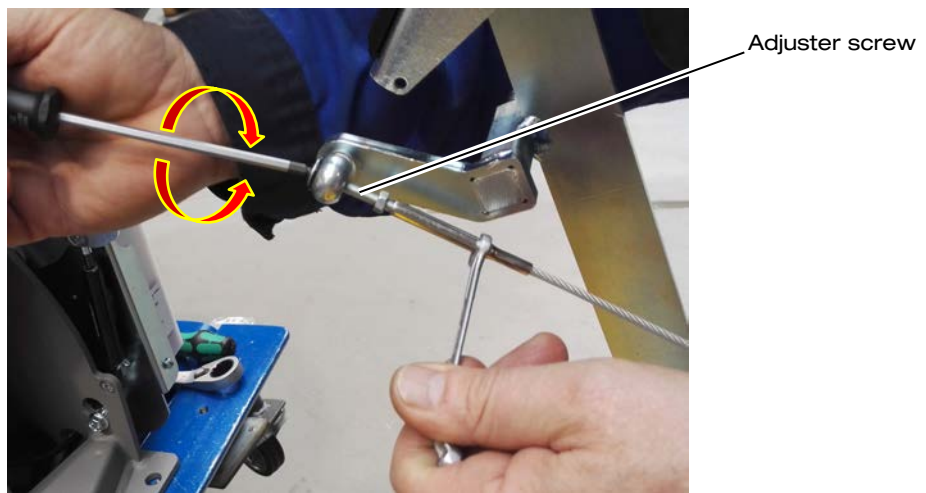

Figure 27: Adjusting the Cable Linkages
- ⇒ Adjust the length of the cable linkages by turning the adjuster screws (see Figure 27):